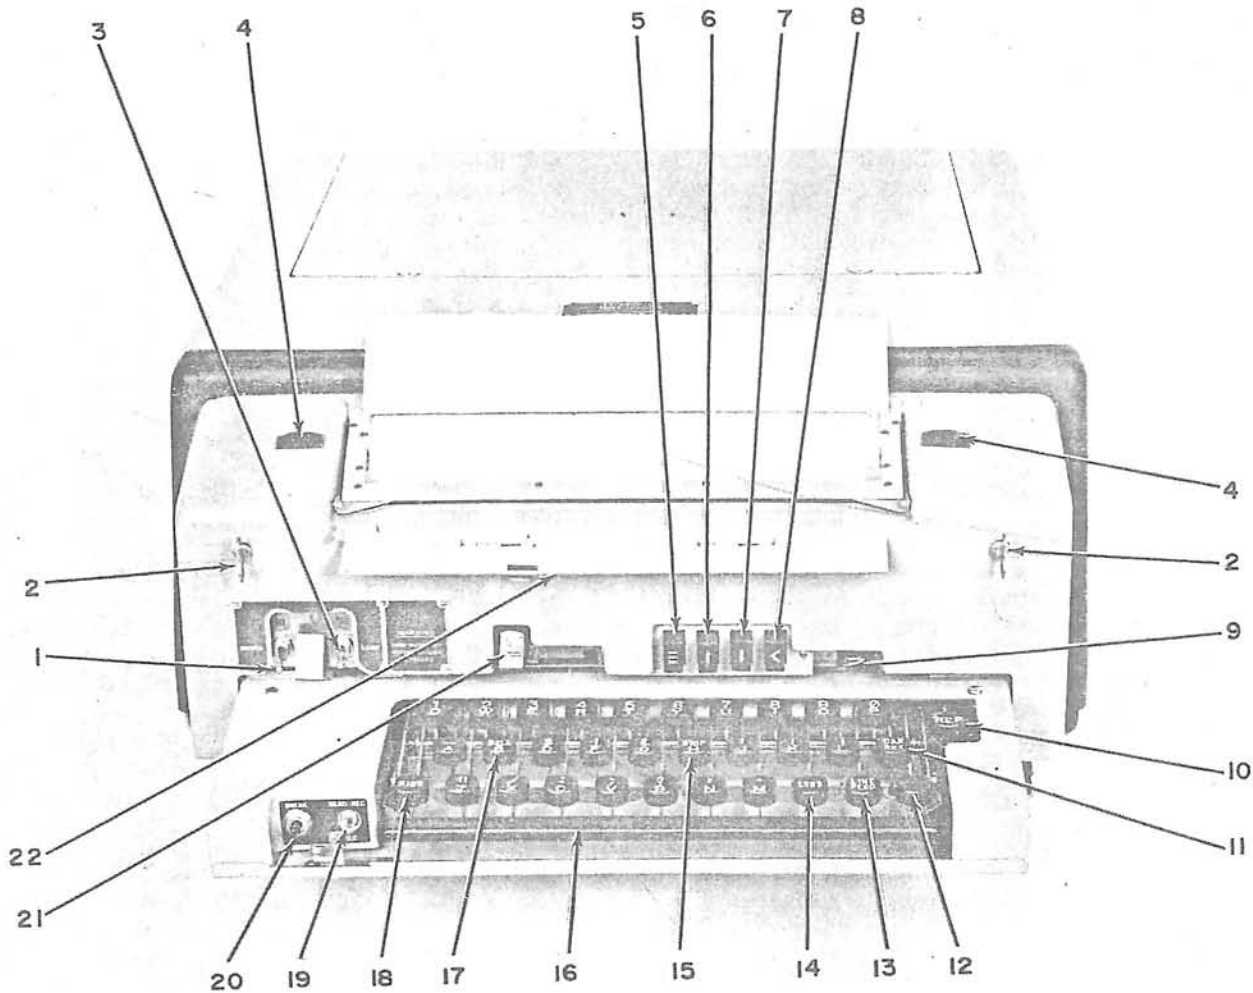

Figure 3-1. Operator's Controls
a. DESCRIPTION OF CONTROLS. - Refer to Table 3-1 for a listing of all operator's controls and functions. All index numbers referred to in Table 3-1 are shown in Figure 3-1.
- Preliminary Starting Procedures - Subparagraph (1)
- Installation of Ribbon - Subparagraph (2).
- Installation of Paper - Subparagraph (3).
- Starting Procedure - Subparagraph (4).
- Operating Procedure and checks - Subparagraph (5).
- Stopping Procedure - Subparagraph (6).
(1) PRELIMINARY STARTING PROCEDURE.
- Step 4. Set LINE FEED control arm (located in notch in front cover, 9, Figure 3-1) for single or double spacing of lines.
| CONTROL | FIGURE 3-1 LEGEND | LOCATION | FUNCTION |